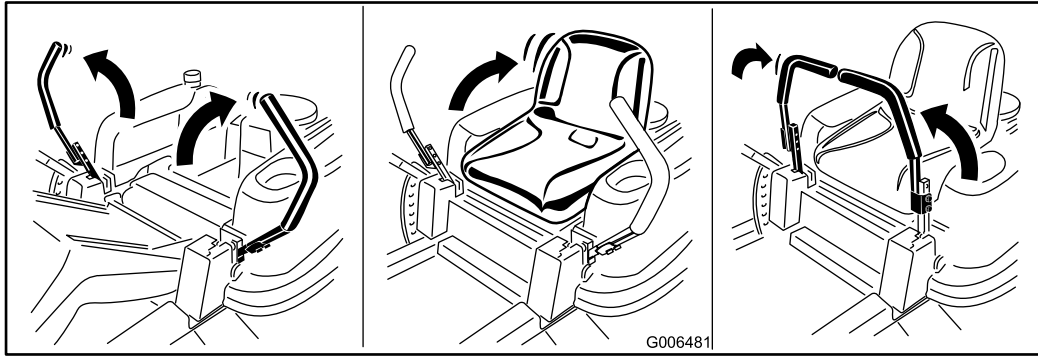

Figure 4
3. Open the motion control levers and raise the seat (Figure 4). Move the control levers back to the center position (neutral).